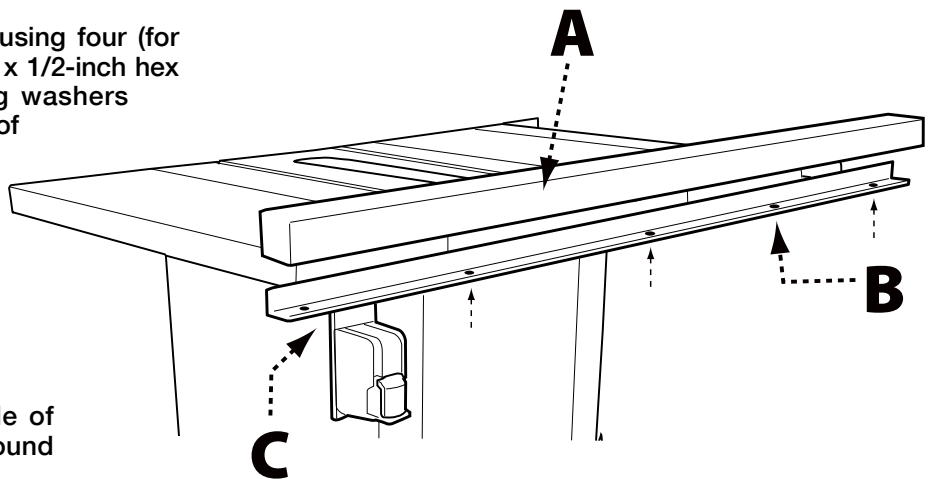

FIGURE 10
1. Connect the fence guide tube (A) by inserting the smaller end into the larger end. See Figure 10
2. Attach the fence guide to the front rail using four (for 30" versions) six (for 52" versions) 1/4-20 x 1/2-inch hex button head screws and 1/4-inch spring washers through the holes (B) on the bottom side of the front rail.
3. Align the two holes in the power control box bracket with the holes underneath the front rail (C), located on the left side of the saw. Secure the power control box to the front rail using two 1/4-20 x 1/2-inch button head screws.